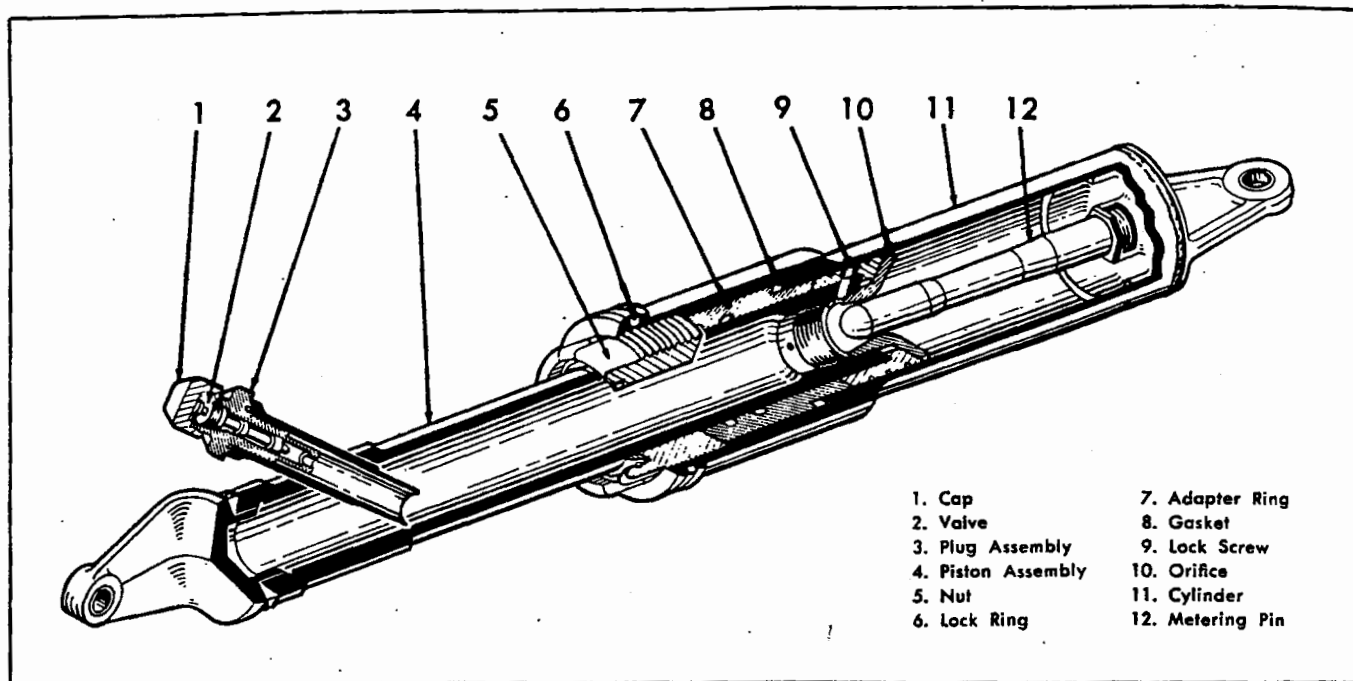

Figure 4-50. Tail Gear Shock Strut.
4-370. DESCRIPTION. (See figure 4-50.) The tail wheel shock strut is of the oleo-pneumatic type, consisting of a piston assembly (4), an orifice (10), an outer telescoping cylinder (11) and metering pin (12). Shock
4-373. DISASSEMBLY. (See figure 4-50.) The following special tools are required for the disassembly of the tail gear shock strut; see figure 3-16 for use of special tools.
4-376. FILLING PROCEDURE. (See figure 4-50.) The shock strut has a stroke of 8 1/2 inches from the fully compressed position to the fully extended position. The distances measured between the centerlines of the strut attaching bolts for fully compressed, static and fully extended positions are given below: